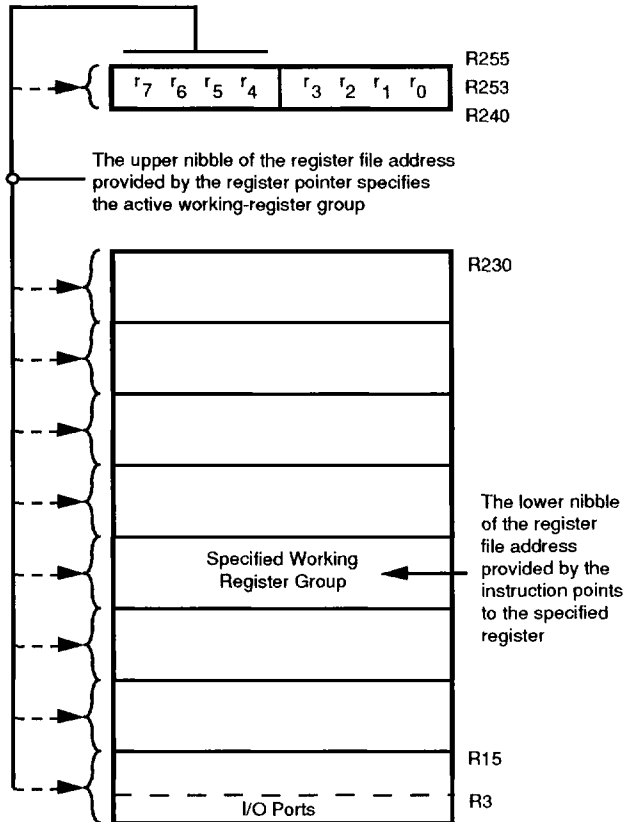

Figure 9. Register Pointer
**Register File.** The register file consists of three I/O port registers, 236 general purpose registers and 15 control and status registers (R0-R3, R4-239 and R240-R255, respectively), and two system configuration registers in the expanded register group (See Figure 7). The instructions can access registers directly or indirectly via an 8-bit address field. This allows a short 4-bit register address using the Register Pointer (Figure 9). In the 4-bit mode, the register file is divided into 16 working register groups, each occupying 16 continuous locations. The Register Pointer addresses the starting location of the active working register group.